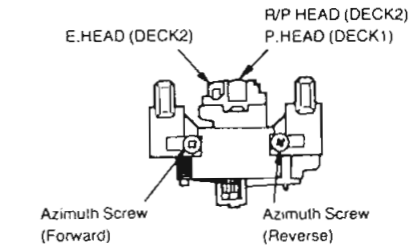

Fig. 4
- Playback the azimuth adjustment portion (8 kHz, -20 dB) of test tape (QZZCFM). Adjust the azimuth adjusting screw until the outputs of the L/R-ch are maximized. (Refer to Fig. 4.)